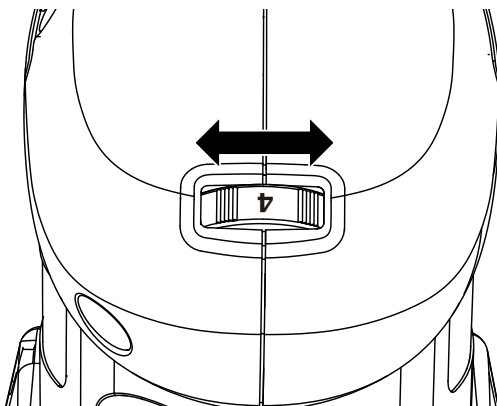

Figure 4
2. VARIABLE SPEED CONTROL (SEE FIG. 4)